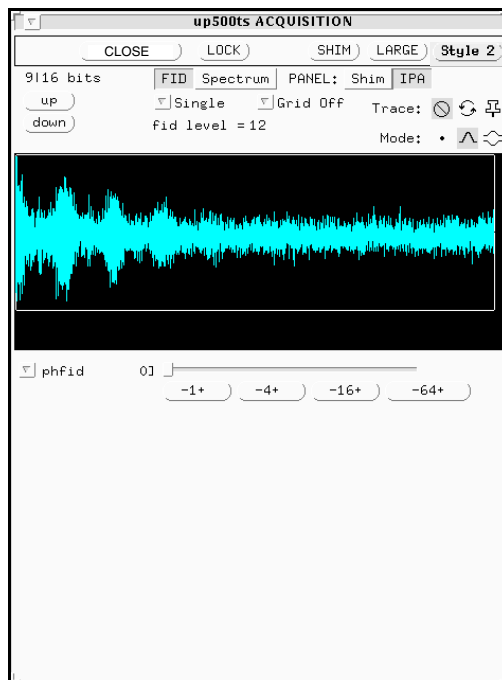

Figure 45. Spectrum Display Window with IPA (`acqi` Program)
- IPA selects interactive parameter adjustment in which the bottom panel displays up to five slide control and button combinations. Figure 45 shows IPA selected with slide controls and button combinations for the parameter *phfid* on display.